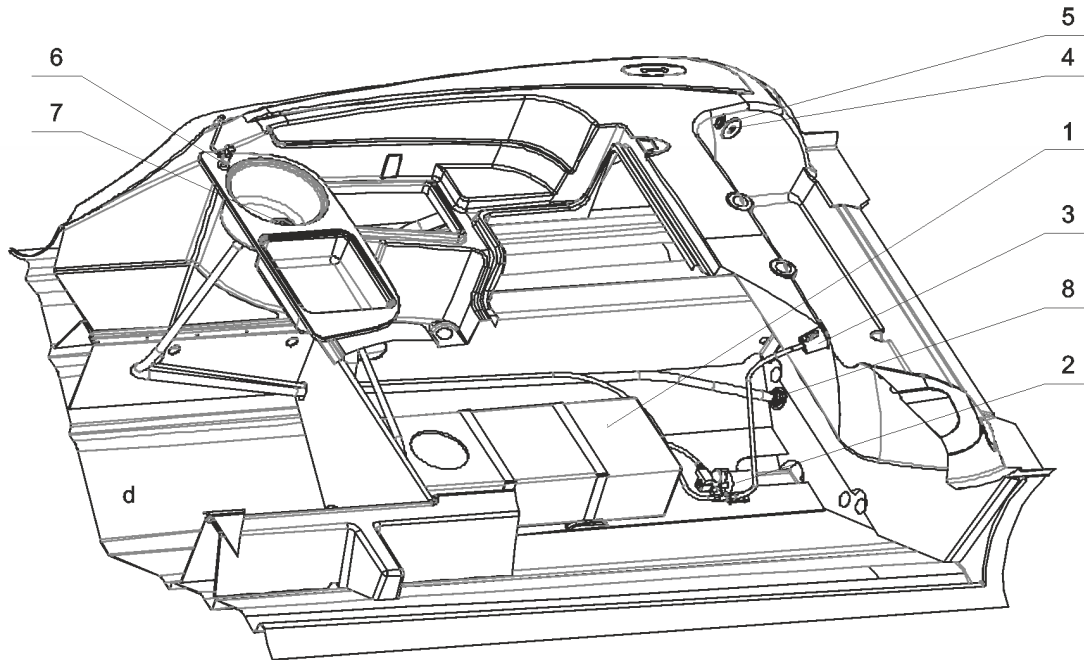

Fig. 34 Water supply system.
Water supply system (see fig. 34 on the previous page).
- To fill up wash basin with water, open a tap (fig. 34, pos. 6).